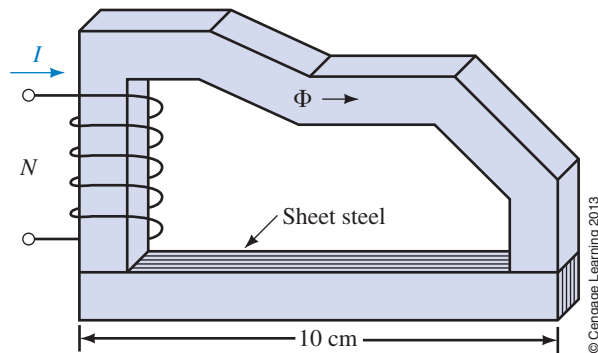

FIGURE 12-50
20. For the circuit of Figure 12-50, $\Phi = 141 \mu\text{Wb}$ and $N = 400$ turns. The bottom member is sheet steel with a stacking factor of 0.94, while the remainder is cast steel. All pieces are $1 \text{ cm} \times 1 \text{ cm}$. The length of the cast steel path is 16 cm. Find current I .